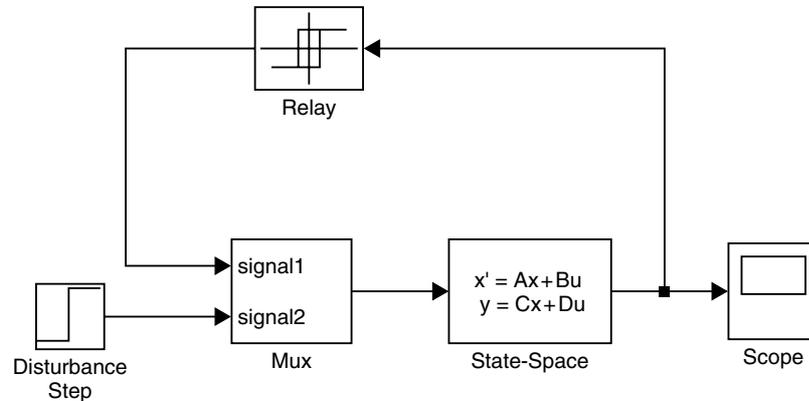

Figure 10.4–9 Simulink model of a relay-controlled motor.
1. Select and place in the new window the Step block from the Sources library. Label it Disturbance Step as shown in Figure 10.4–9. Double-click on it to obtain the Block Parameters window, and set the Step Time to 0.05, the Initial and Final values to 0 and 3, and the Sample time to 0. Click **OK**.